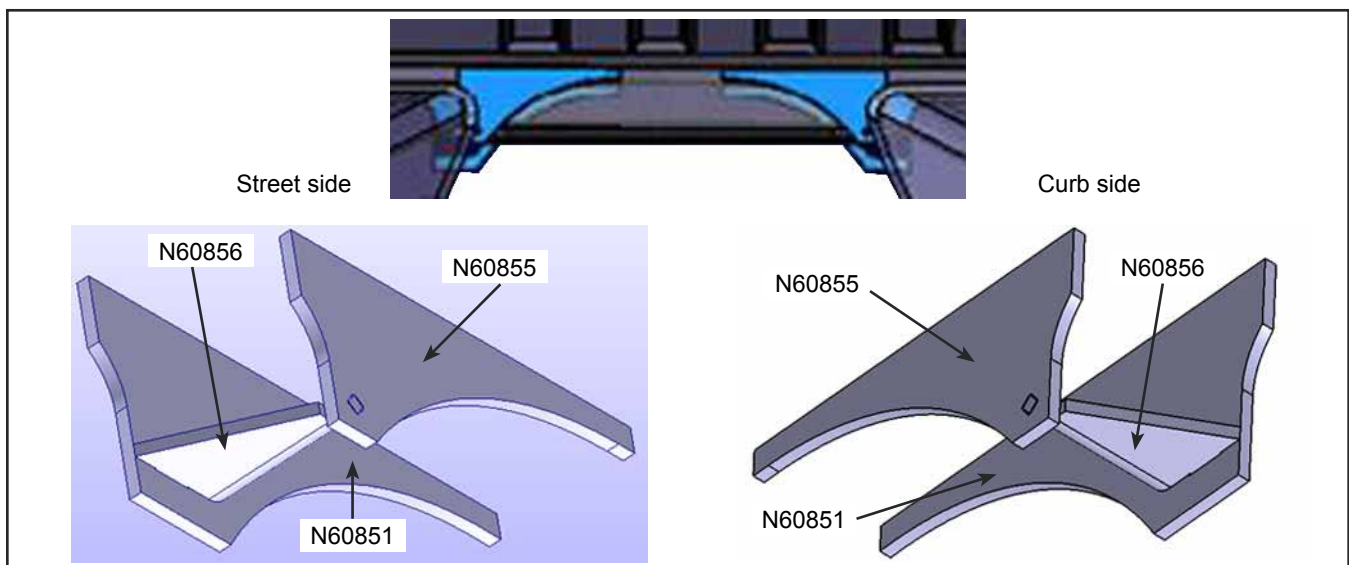

Figure 8 - Position of Plates in Zone 1
17. Weld the plates N60851, N60855 and N60856 in zone 1. See Figure 8 for the position of the plates.